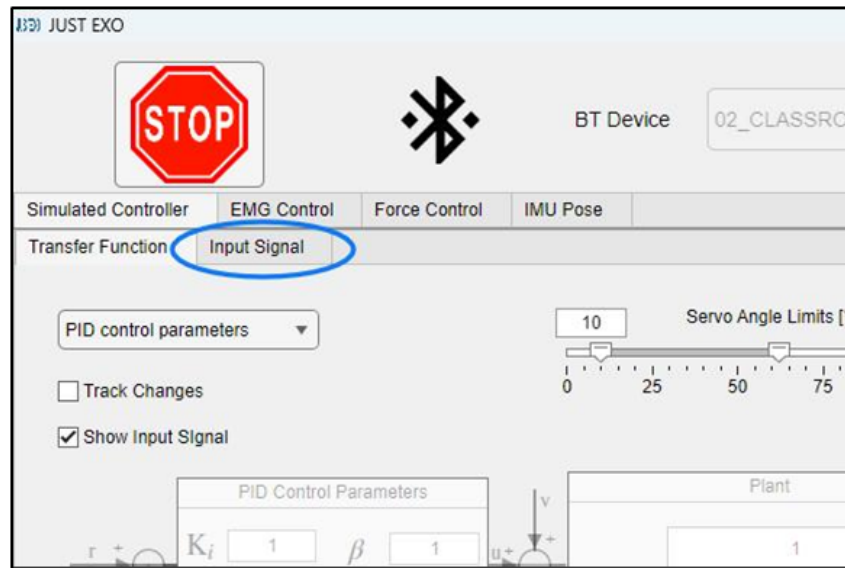

Figure 15: The input signal tab (blue).
5. Click on the input signal tab, see Figure 15.